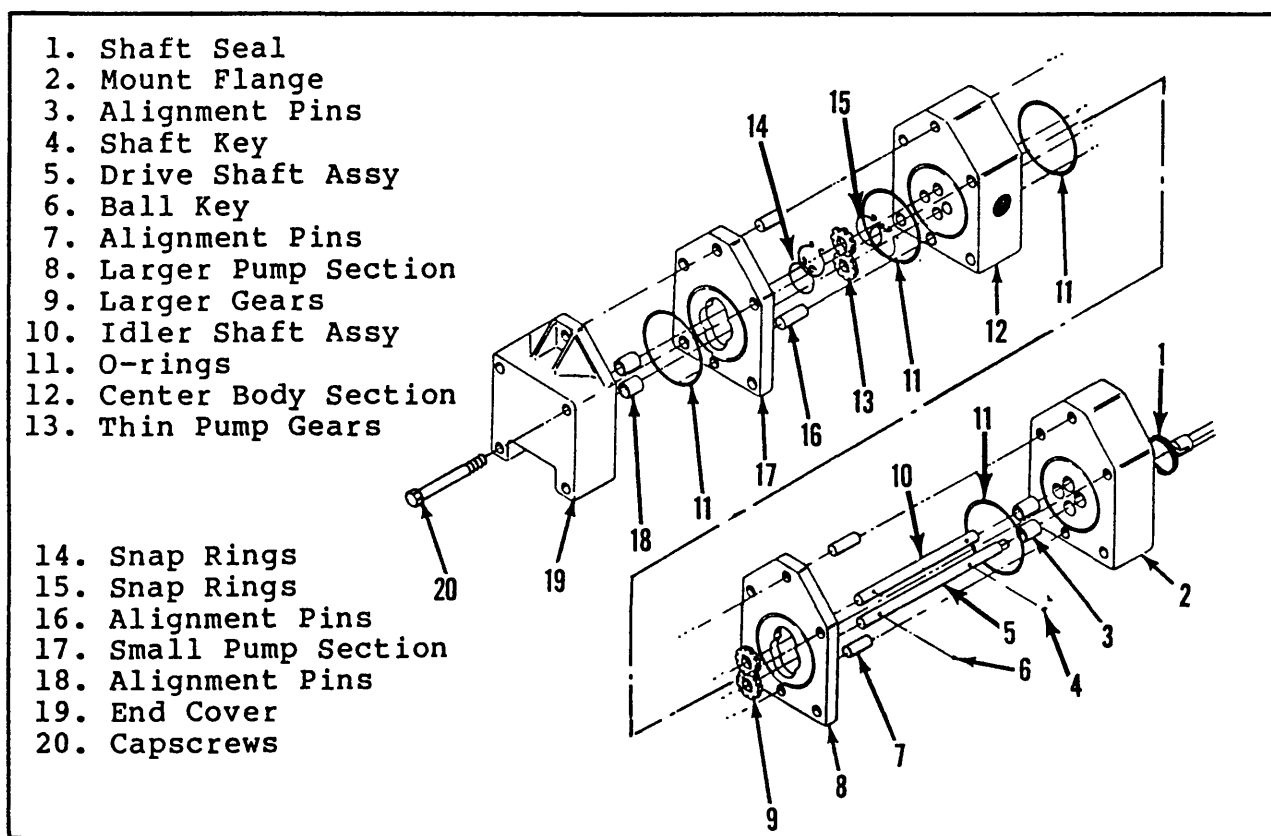

Figure 5-10. Hydraulic Pump Disassembly
(2) Loosen the upper right and lower left capscrews (4) and remove the pump assembly (5) from the motor (6). Ensure not to loose the shaft coupler (7).
b. Disassembly and Inspection (Figure 5-10).